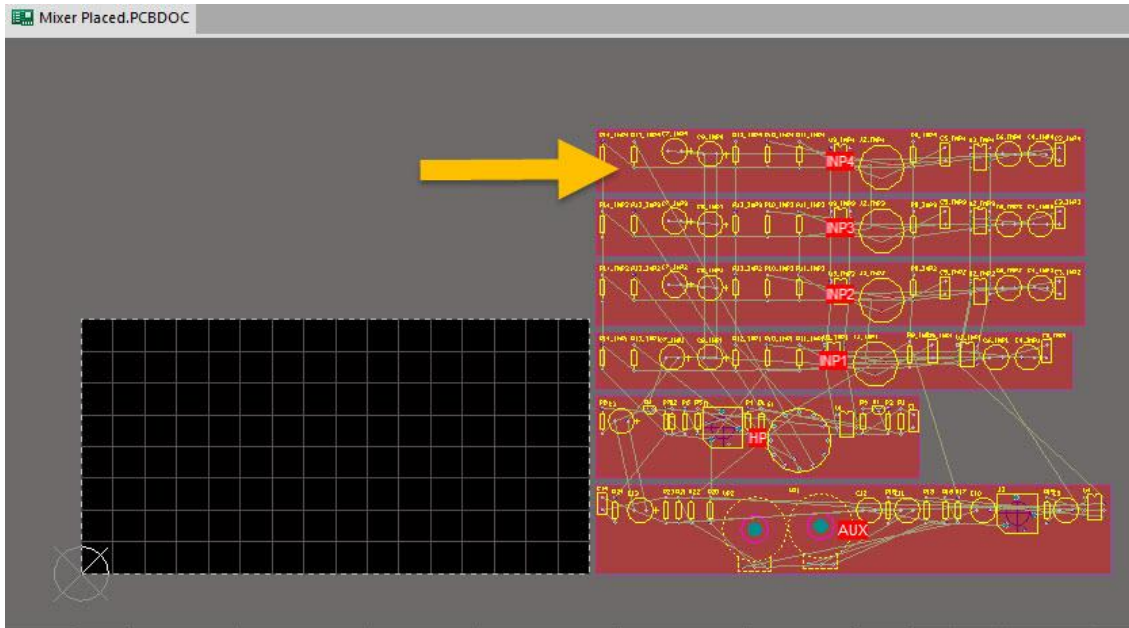

Figure 1. Room INP4
3. Open the `Mixer Placed.PcbDoc` document. You'll notice that the components are placed within their Rooms as shown in Figure 1. A Room is created for each schematic document or channel in the design depending on your Project Options.